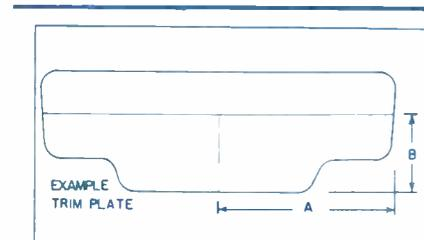

Figure 7. Trim Plate Center Lines
STEP 2. Refer to Column V to determine template position on radio opening trim plate. Dimensions "A" and "B" are listed which specify the position of the template. Where no dimensions are listed, refer to Column VII for special instructions. Dimension (A) is the distance from the right hand edge of the trim plate to the vertical center line to be scribed. Dimension (B) is the distance from the bottom of the trim plate to the horizontal center line to be scribed. See figure 7.
STEP 3. With a pencil mark off or scribe center lines on radio opening trim plate. Refer to Figure 7. Use care not to etch lines in trim plate.